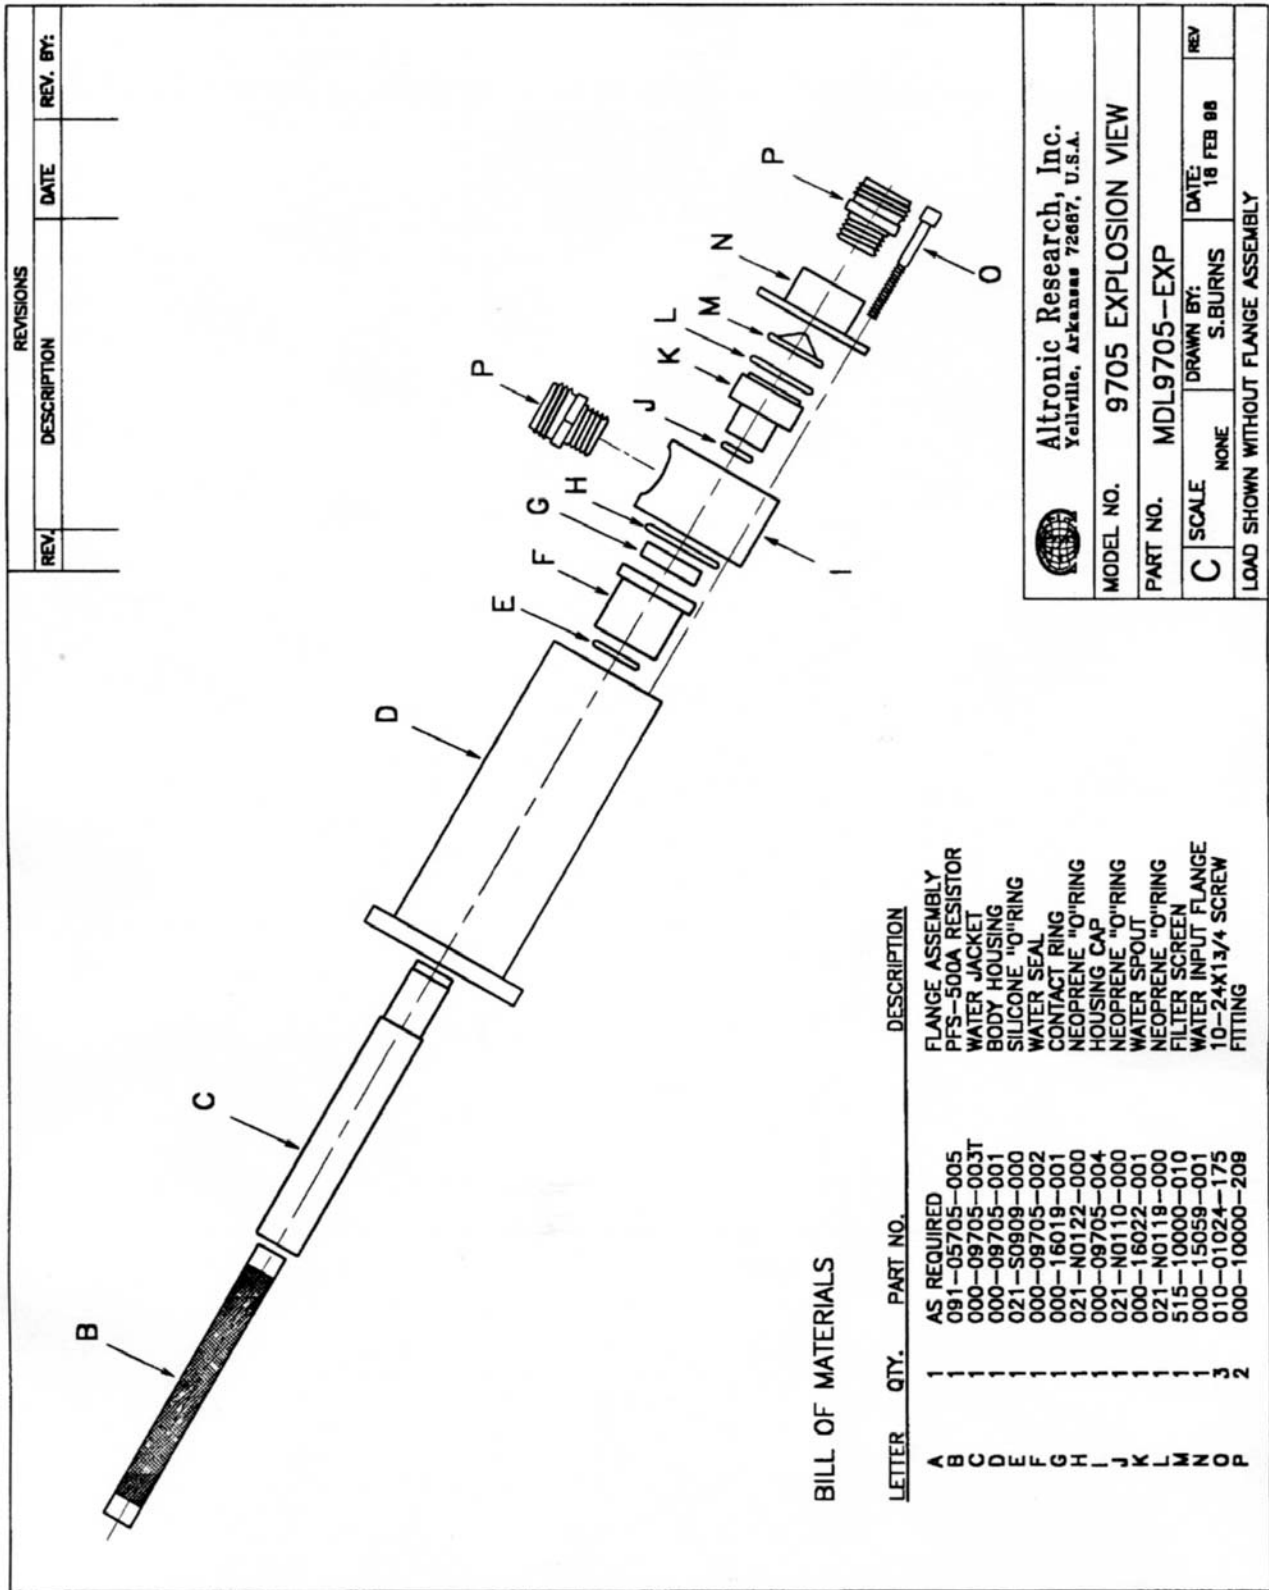
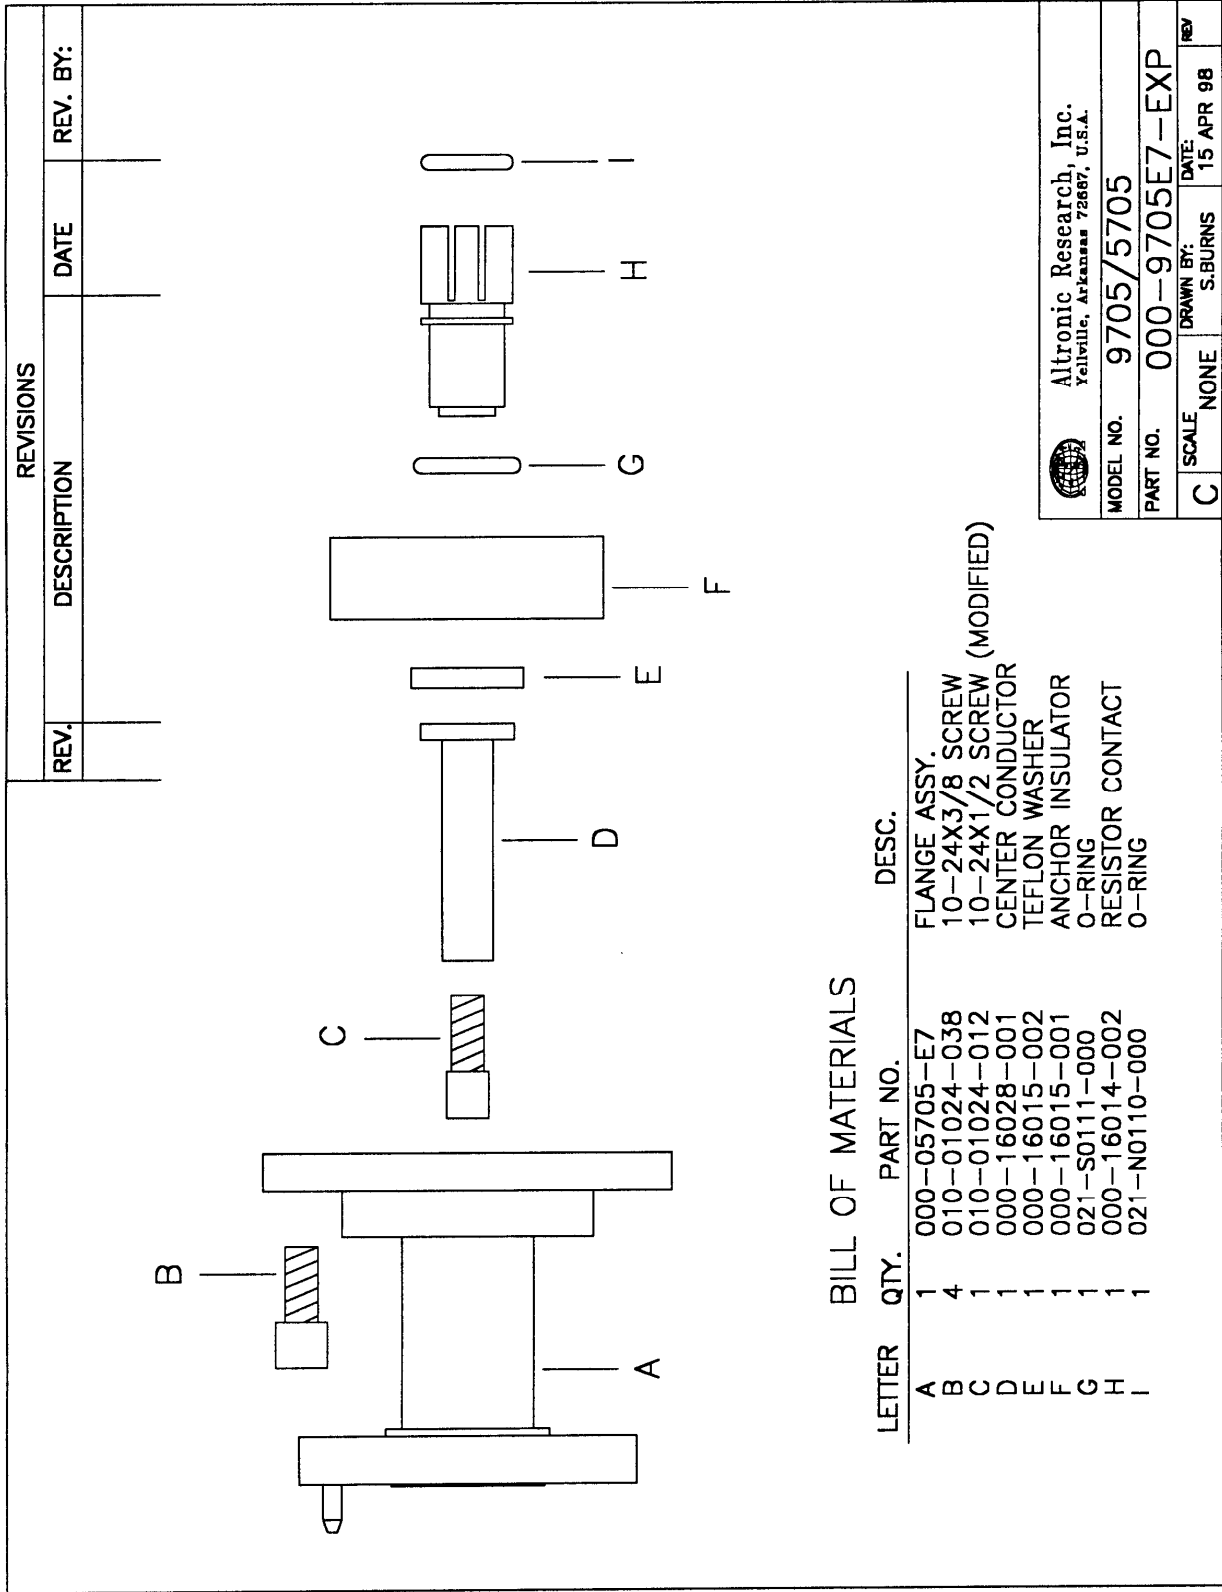

Fig. 14
Fig. 15
4. **Resistor Replacement** - (Refer to Fig. 14) To replace the resistor element, remove the three 10-24x1-3/4" cap screws (item O). Remove water input assembly (items M, N, and P). Inspect filter screen for damage, replace if eroded or torn. Remove housing cap assembly (items G, H, I, P, J, K and L). Inspect all O-rings for distortion or damage. Replace if pinched, cut, burned or no longer round in cross section. Inspect ring contact (item G) for signs of arcing or loss of silver in the area of contact with the resistor contact band. Replace if damage is noted. If resistor (item B) is not broken, grasp by the end extending from the water seal (item F) and pull it straight out of the load. (If
- 5. Removal of RF Input** - (Refer to Figure 15) To remove the RF input line adaptor flange, remove four 10-24x 3/8" socket head screws (item B) that secure the line adaptor flange (item A) to the load body housing (item D, Fig. 14). The RF input assembly consisting of the center conductor, anchor insulator and front resistor contact (items C, D, E, F, G, H and I) will normally remain in the load body. Grasp the center conductor (item D) by hand and attempt to pull the input assembly out of the load body using slight side to side motion while pulling. If strong resistance is encountered, it may be necessary to chill the load to allow the anchor insulator to shrink away from the load housing. This can be done by placing the load in a freezer, or packing the load in ice for 20 to 30 minutes. Once the anchor insulator has shrunk away from the load housing, the RF input assembly should be easily removed. At this point of disassembly, all components of the load can be inspected or replaced as needed. Reassembly should be done in the reverse order of sequence.